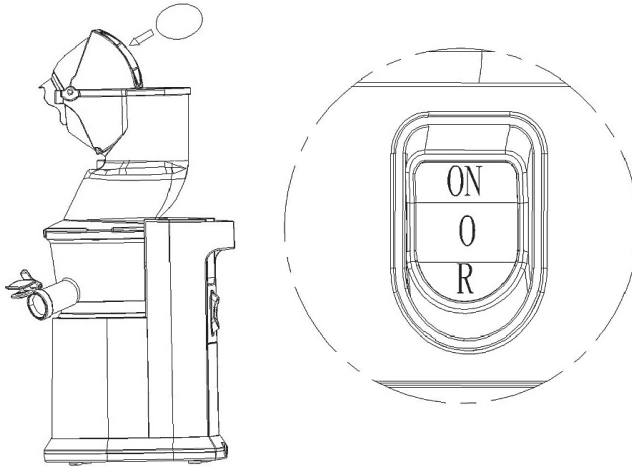

Fig. 6
3. The Slow Juicer has 3 settings (Figure 6)